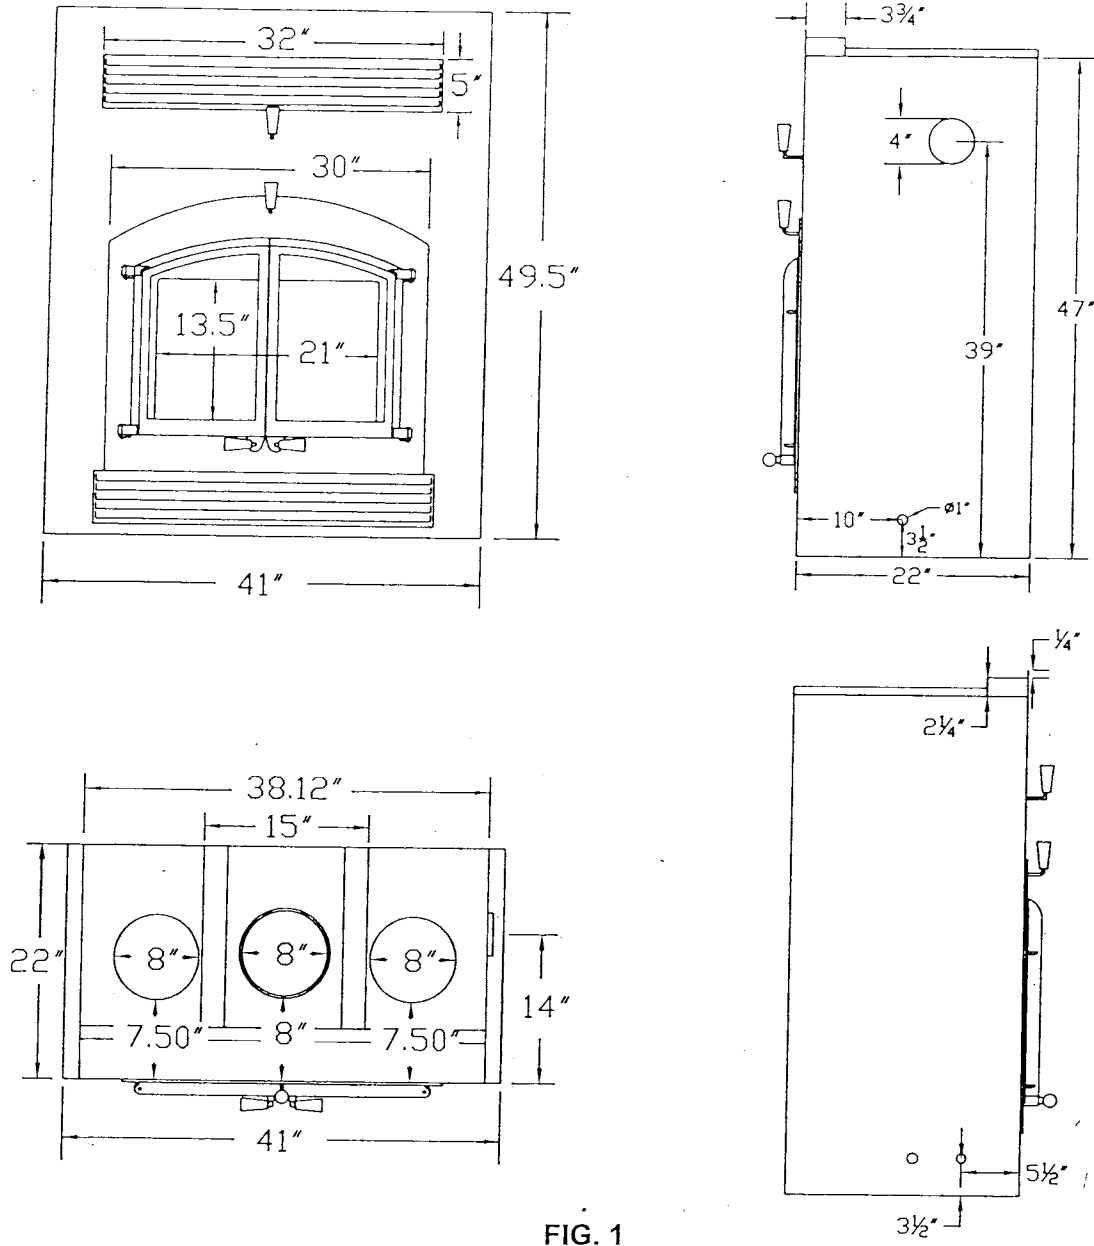

FIG. 1
A. SPECIFICATIONS. See Figure 1.